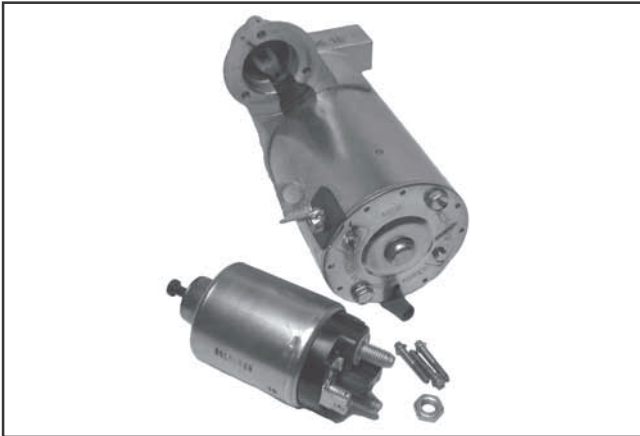

Figure 7-18. Solenoid Removed from Starter.
3. Unhook the plunger pin from the drive lever. Remove the gasket from the recess in the housing. See Figures 7-18 and 7-19.